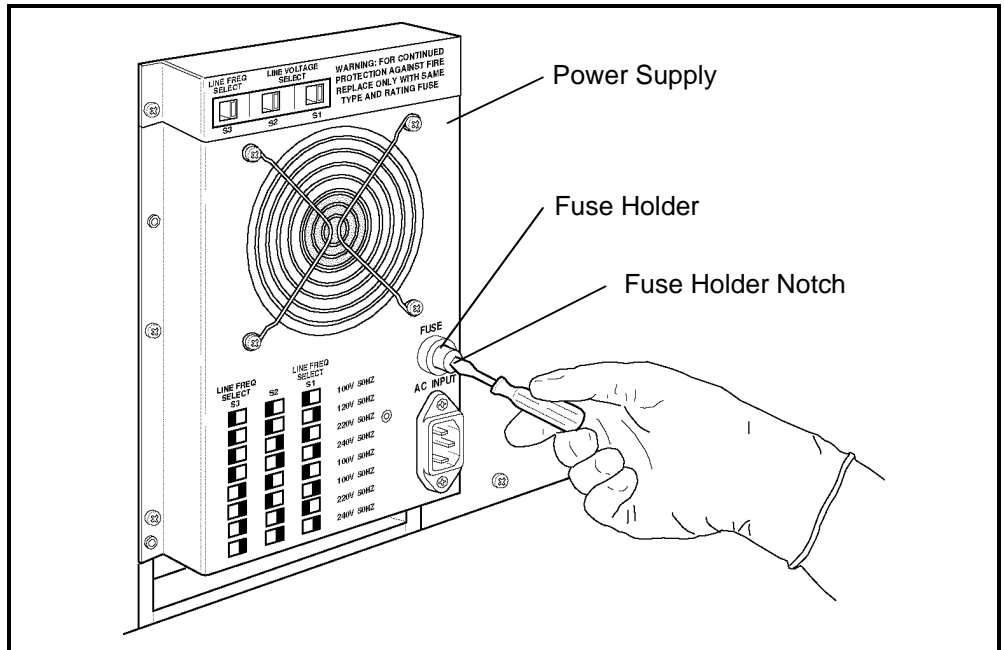

Figure 9.19: Fuse Replacement
1. Turn the system OFF. Locate the plastic fuse holder on the Rear Panel. (Refer to Figure 9.19.)